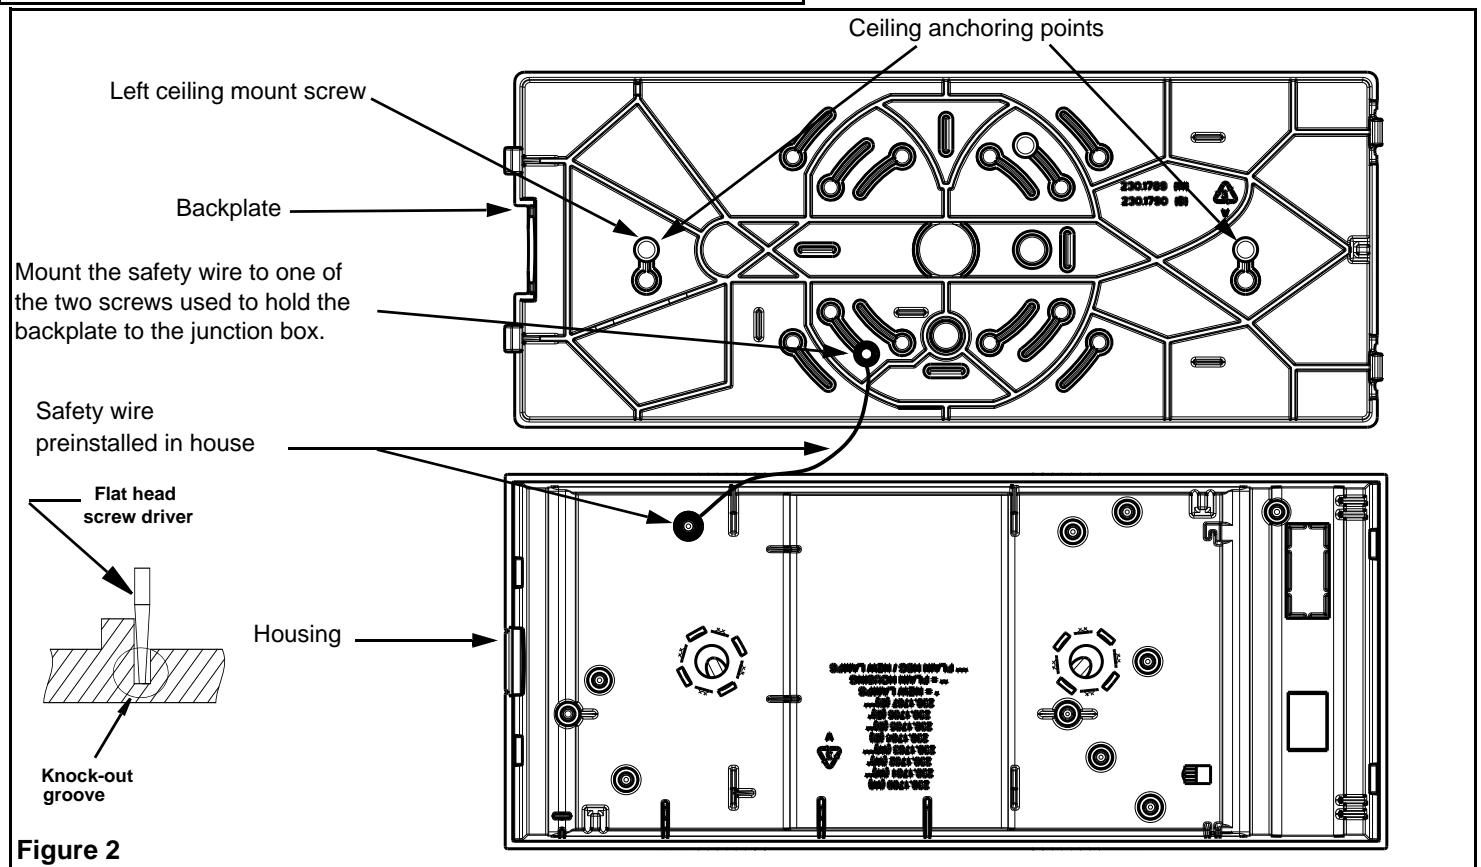

Figure 2
7. Remove one junction box screw or the left ceiling mount screw, insert the screw through the lug on the end of the safety wire and tighten the screw back onto the junction box or mounting hole (see fig.2).
**Caution! For ceiling mount units it is critical to screw in the securment screw (6) to the side of the unit and ensure the safety wire (5) is attached. Failure to do so can cause serious injury.**